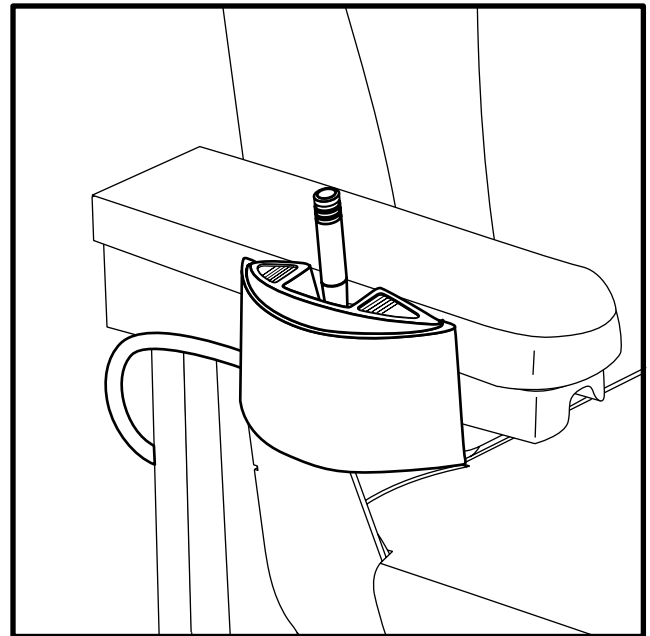

Figure 25. Power Seat Toggle Switch
1. Press forward on the toggle switch to raise the seat. See figure 25.